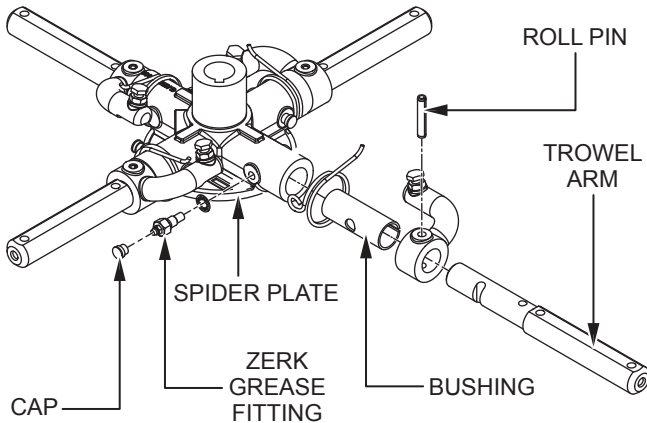

**Figure 67. Blade Removal**
- Remove the bolts and lock washers from each of the trowel arms, then remove the blades as shown in Figure 67.